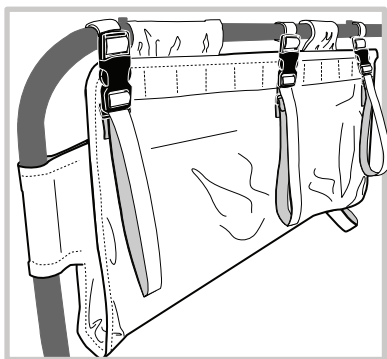

Figure 21
10. Montage final (figure 21).